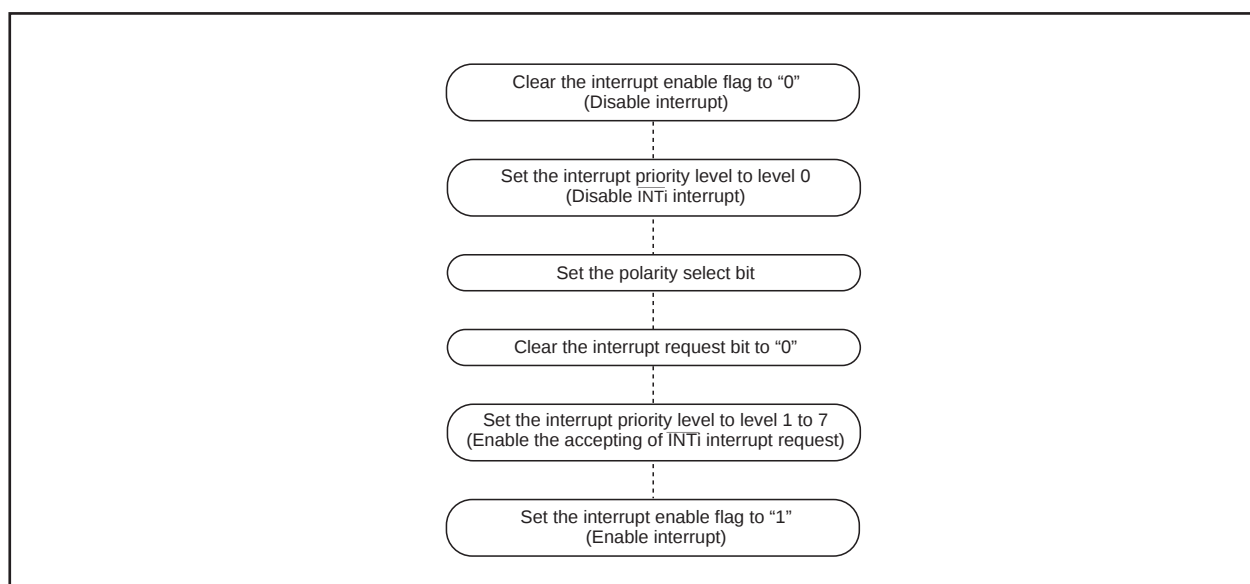

Figure 38. Switching condition of INT interrupt request
(3) The $\overline{\text{NMI}}$ interrupt
(4) External interrupt
- When the polarity of the $\overline{\text{INT0}}$ to $\overline{\text{INT2}}$ pins is changed, the interrupt request bit is sometimes set to "1". After changing the polarity, set the interrupt request bit to "0". Figure 38 shows the procedure for changing the $\overline{\text{INT}}$ interrupt generate factor.